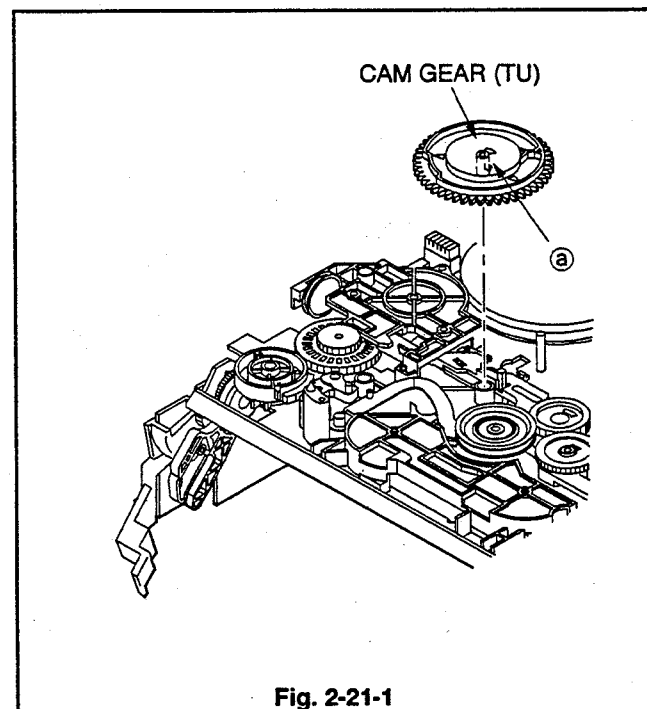

Fig. 2-21-1
1. Use tweezers to unfasten the Catch (Ⓐ) on the surface of the **CAM GEAR (TU)**, shown in Fig. 2-21-1, and remove the **CAM GEAR (TU)**.